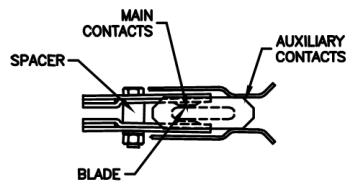

Figure 1
- As the blade opens, the bottom of the blade touches the auxiliary contacts before the blade leaves the main contacts (see Figure 1 below). This transfers the load from the main contacts to the auxiliary contacts. As the switch continues to open, the main contacts will part and no longer carry the load, while the auxiliary contacts carry the full load (see Figure 2 below).